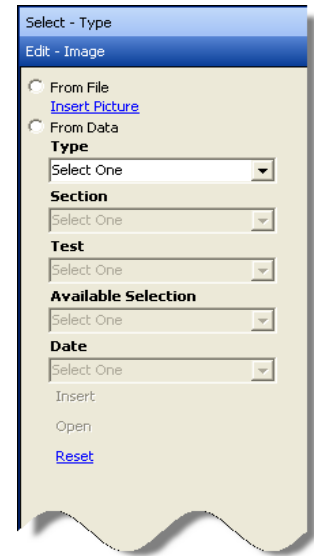

Figure 3-75: Detailed Report - Edit-Image Window
2. Select Edit - Image (located at the bottom of the window). The Edit - Image pane shown in Figure 3-75 opens.